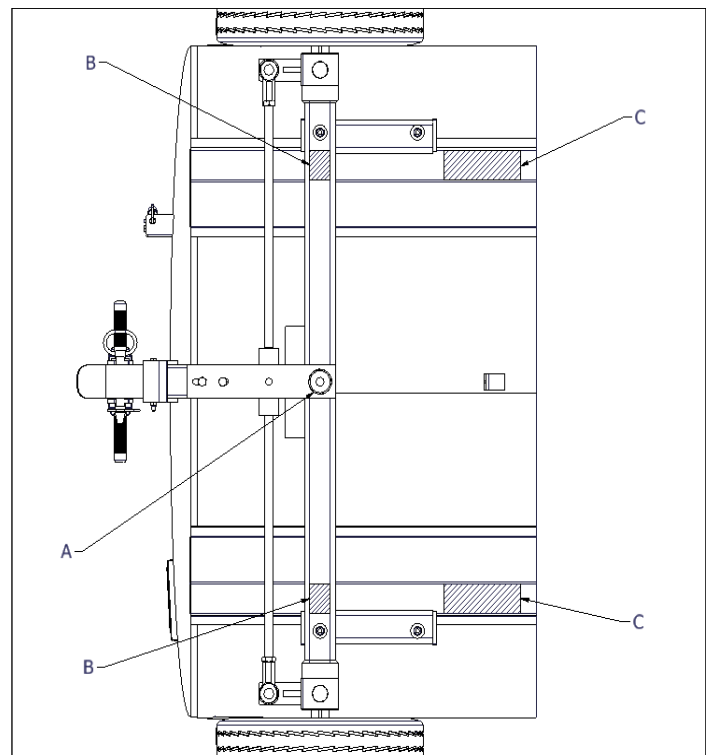

Figure 5-2. Generic Undercarriage Lift Points
- a. Raise equipment with suitable maintenance jack (See Figure 5-2, reference arrow A for jack placement) high enough to remove wheel assembly.
- b. Place approved jack stands under front axle (see Figure 5-2, reference arrow B for stand placement).
- a. Raise equipment with suitable maintenance jack (see Figure 5-2, reference arrow A for jack placement) to allow for 4-inches of space between the wheels and the ground.
- b. Place cribbing under tank skids (see Figure 5-2, reference points C) to safely support the equipment.
- d. Place tow bar (1) in the up position.
- f. Remove bolts (2) and nuts (3).
- g. Carefully lower jack and assembly until wheels are on the ground and front axle tube clears tank mounts (4).
- h. Pull Front Undercarriage forward. Note location of rubber mounting pads (5).
Figure 5-2 is generic for both the Front Undercarriage and Rear Undercarriage. Points A and B are similar on both axles.
- b. Place approved jack stands under rear axle (See Figure 5-2, reference arrow B for stand placement).